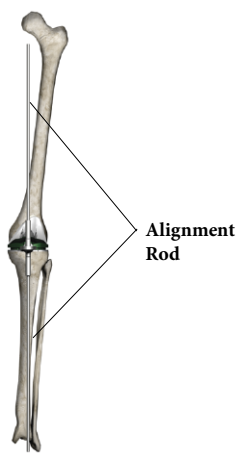

Figure 73
- Overall leg alignment may be assessed at this time. Re-attach the Alignment Handle to the trial baseplate and insert two Alignment Rods into the handle. The rods should parallel the mechanical axis of the leg in both the coronal (A/P) and sagittal (M/L) views (**Figure 73**).